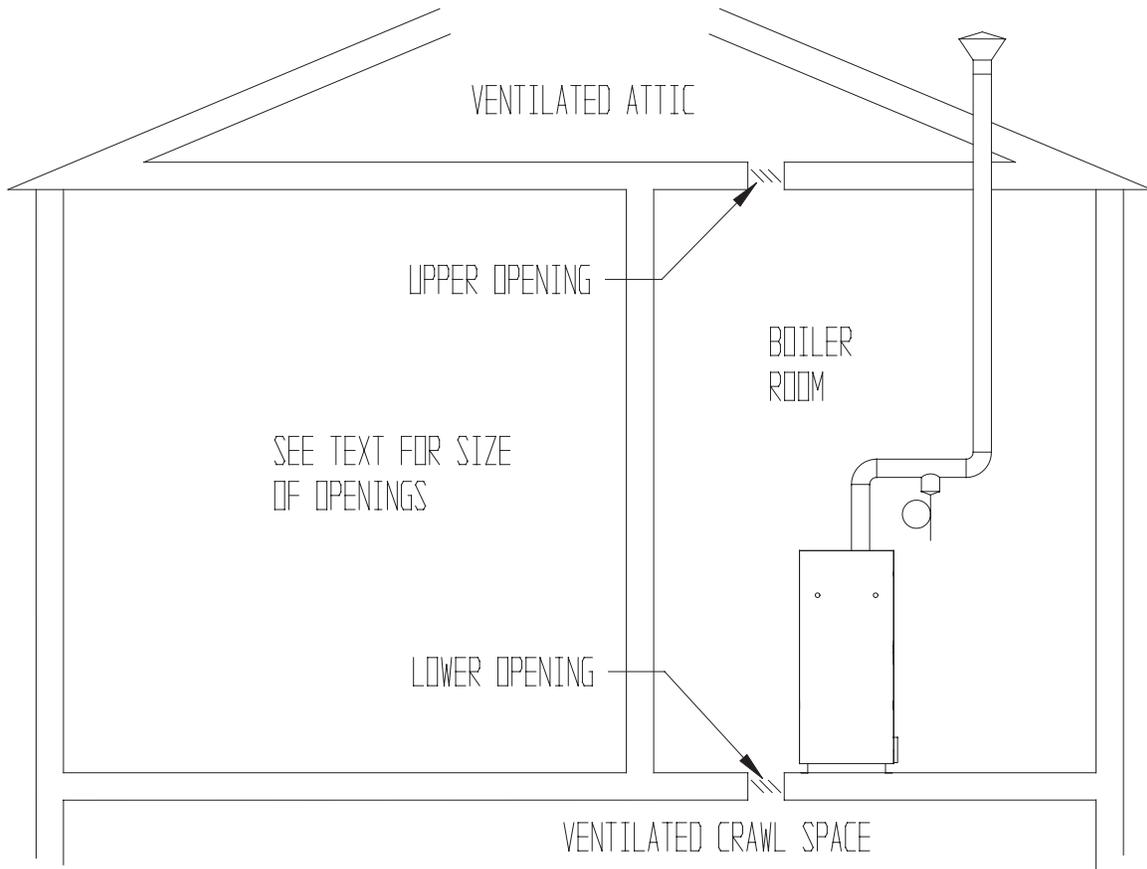
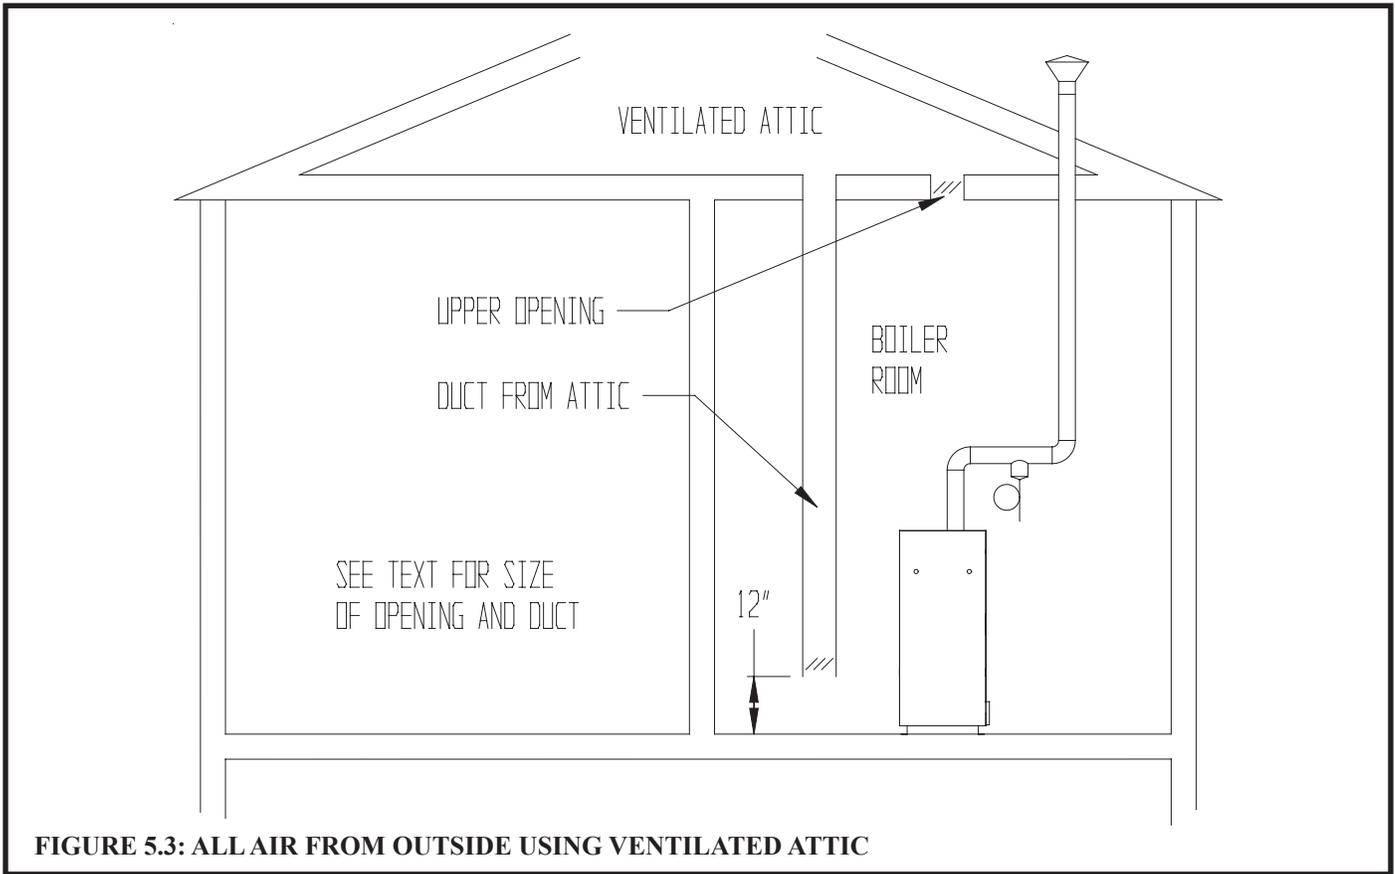
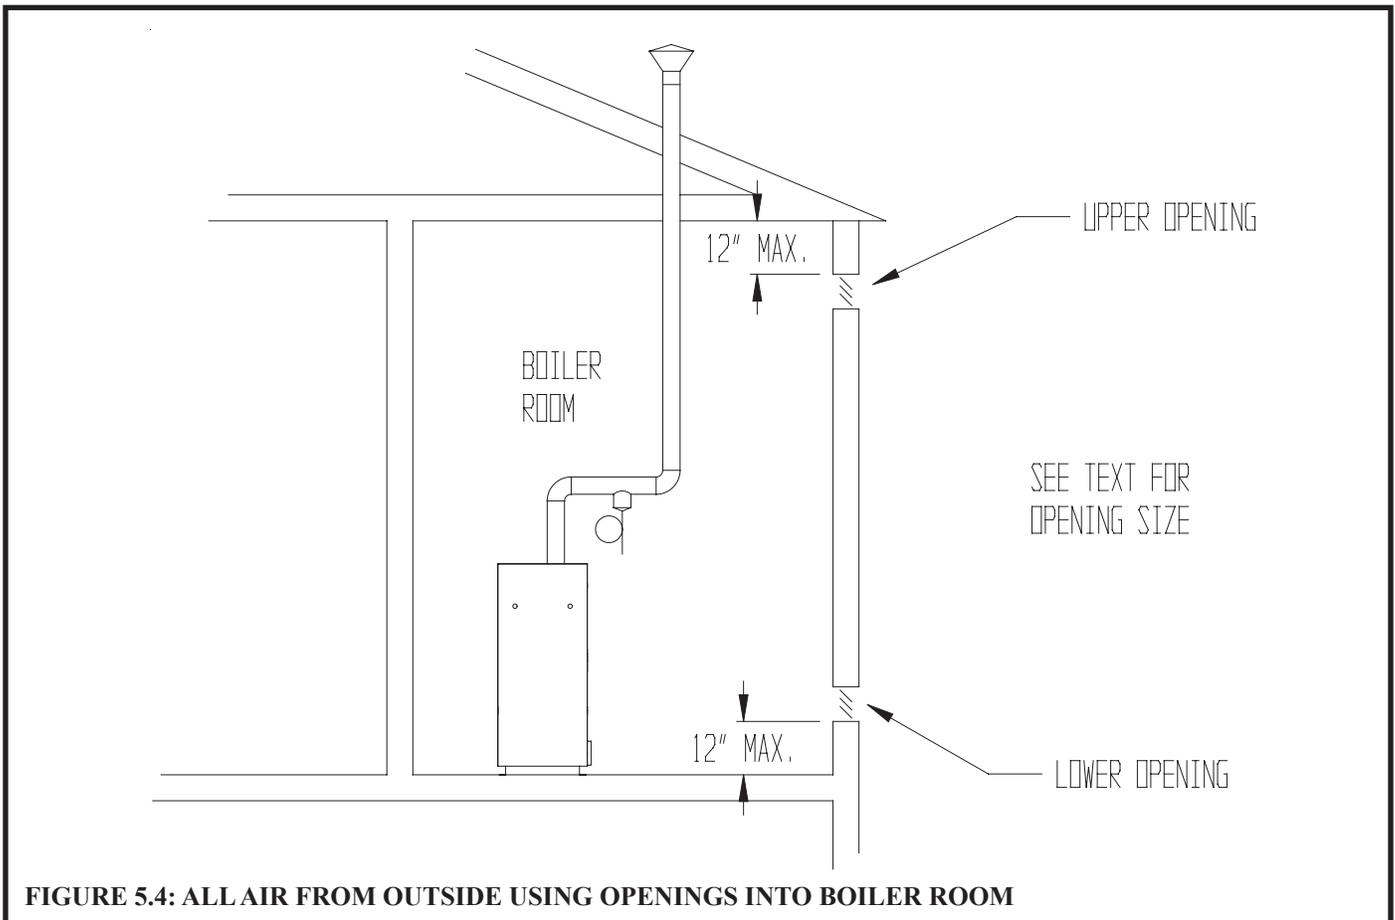

FIGURE 5.2: ALL AIR FROM OUTSIDE USING VENTILATED CRAWL SPACE AND ATTIC
FIGURE 5.3: ALL AIR FROM OUTSIDE USING VENTILATED ATTIC
FIGURE 5.4: ALL AIR FROM OUTSIDE USING OPENINGS INTO BOILER ROOM
- Vertical ducts or openings directly outdoors (Fig 5.2, Fig 5.3, Fig 5.4) – Each opening must have a free cross sectional area of 1 square inch per 4000 BTU/hr of the total input of all gas-fired appliances in the boiler room but not less than 100 square inches. Minimum opening size is 3 inches.